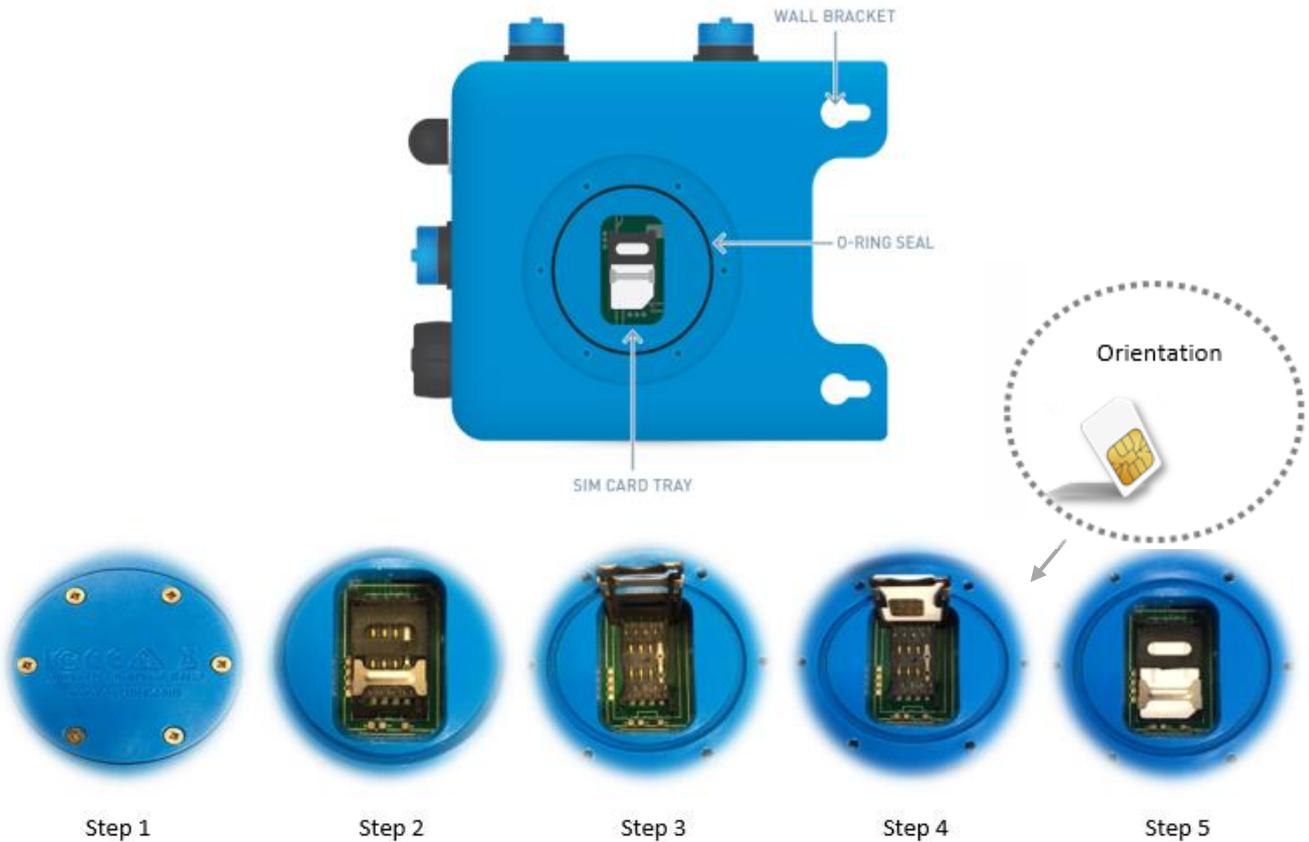

Figure 3. SIM Installation
Steps (refer to Figure 3.)
4. Insert the SIM card into the hinged part of the SIM holder following orientation shown in Figure 3.